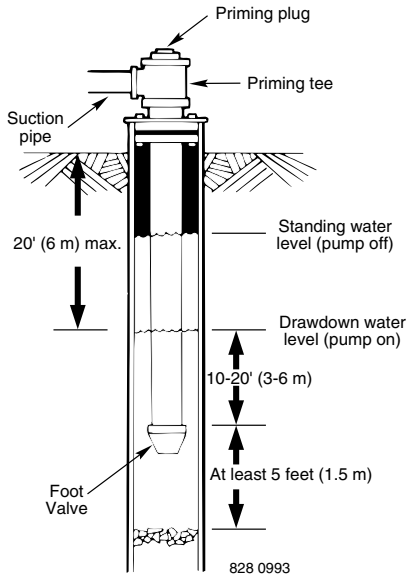
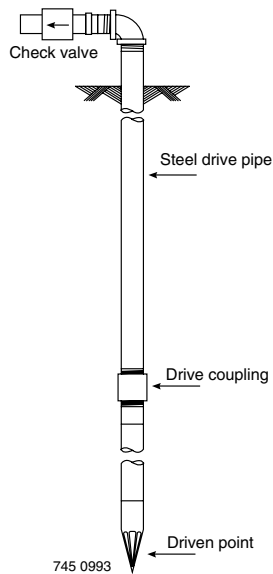

Figure 5 – Cased/Dug Well Installation
Figure 6 – Driven Point Installation
- Step 5. When using a foot valve, a priming tee and plug as shown in Figure 5 are recommended.
Step 1. Connect the suction pipe to the drive point as illustrated in Figure 6. Keep horizontal pipe run as short as possible. Use Teflon tape on male pipe threads. Multiple well points may be necessary to provide sufficient water to pump.
Step 2. To aid priming on well point installations, install a line check valve as shown in Figure 6. Be sure check valve flow arrow points toward pump.
NOTICE: For long horizontal pipe runs, install a priming tee between check valve and well head as shown in Figure 5. For driven point installations, install a check valve as shown in Figure 6. Be sure check valve flow arrow points **toward** pump.